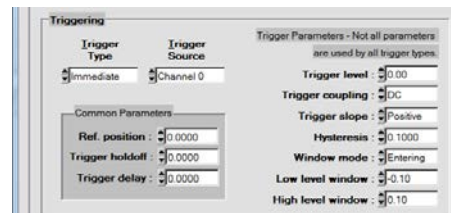

Figure A.6: TPQA configuration panel for trigger resources and setting.
- Trigger setting: Figure A.6 shows the panel aimed at setting and arming digitizer trigger during the measurements. **Trigger Type** and **Trigger Source** are used to arm and set the input source of the trigger. For setting the parameters shown on the left, consult the PXI-5922 datasheet.